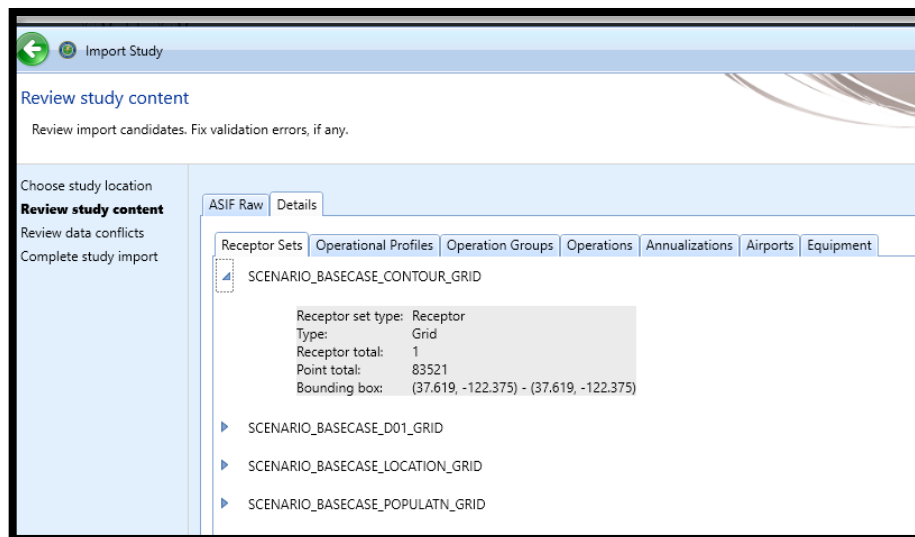

Figure 55- review study content - details
- The *Details* tab displays a detailed view of the study content, organized by categories (Figure 55).